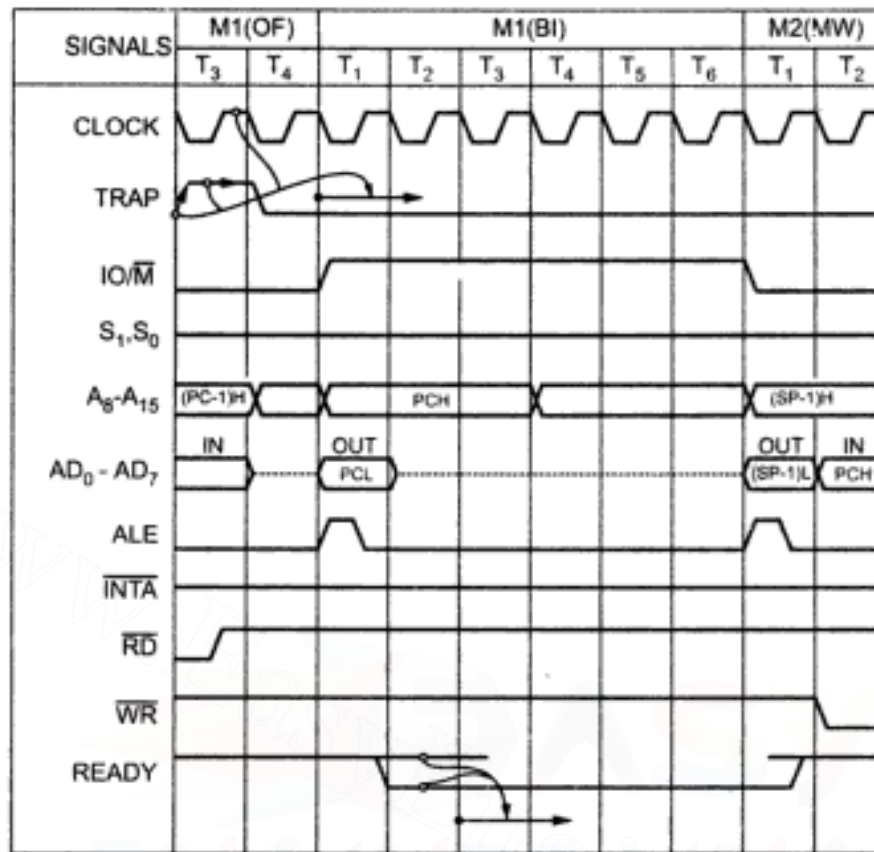

Fig. 1.36 Bus idle machine cycle for trap
2. During internal opcode generations, for TRAP and RST interrupts, 8085 executes Bus Idle Machine Cycles. Fig. 1.36 shows the Bus Idle Machine Cycle for TRAP. In response to TRAP interrupt, 8085 enters into a Bus Idle Machine Cycle during which it invokes restart instruction, stores the contents of PC onto the stack and places 0024H (Vector address of TRAP) onto the program counter.